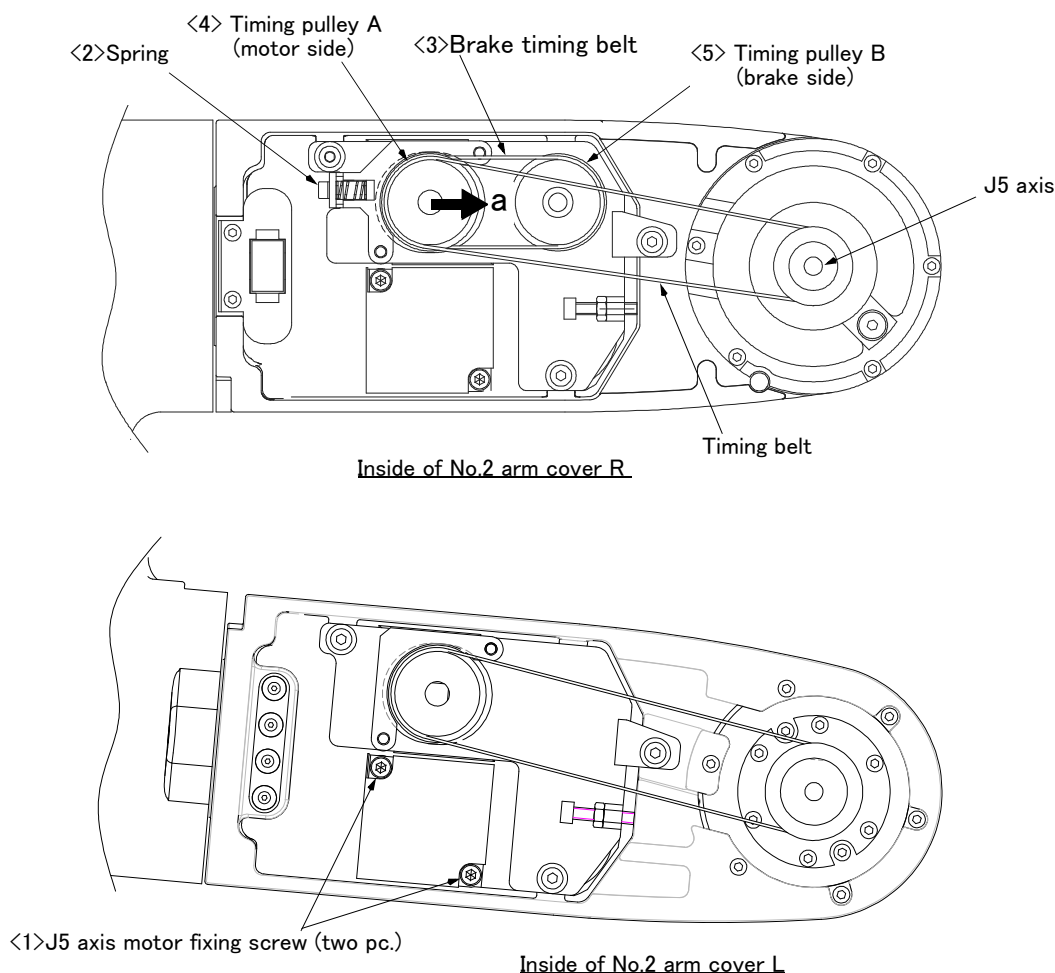

Fig.5-15 : Inspection and replacement of J5 axis brake timing belt (RV-2FR series)
The reference figure at inspection and replacement of the brake timing belt is shown in Fig. 5-15.
- 4) Move motor side timing belt pulley (4) in the direction of the arrow "a" of Fig. 5-15, and remove the brake timing belt..
(8) RV-2FR series: Inspection and replacement of J6-axis timing belt and brake timing belt